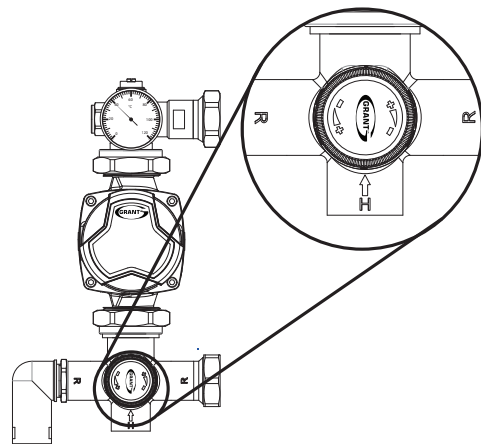

Figure 3-12: Mixed Flow temperature adjustment
1. Turn the dial for the thermostatic mixing valve, located on the 4-port blending valve. Clockwise will decrease the temperature and anti-clockwise will increase it. Refer to Figure 3-12 and Table 3-1.